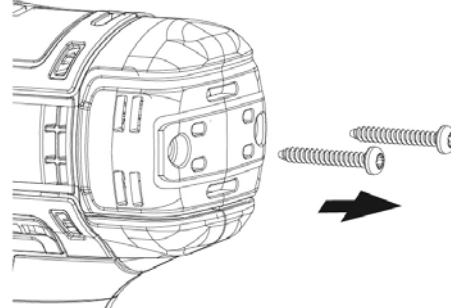

Fig.1
- (1). Use a screwdriver to unscrew two screws from rear cover.( See Fig.1)